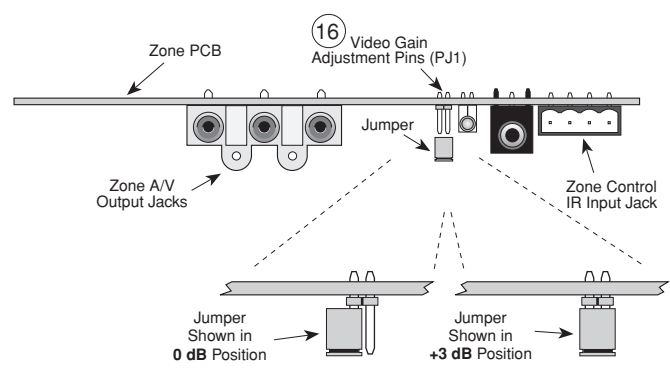

Fig. 4 Video Gain Adjustment - Jumper Locations
16. **Video Gain Adjustment Jumpers (internal).** The video gain of each zone on the ZPR68-10 can be set to two levels, by the use of an internal jumper. See **Fig. 4**. With the jumper on one pin only of PJ1, the video gain is unity (0 dB). When the jumper is inserted onto both pins of PJ1, the video gain is increased by +3 dB. You should use the +3 dB position only if you notice a reduction in picture contrast and brightness when running long cable lengths (usually in excess of 150 feet). Since the majority of applications will not require additional gain, all
*Use RG-6 coaxial cable with RCA type phono plugs on each end. You may need to adjust the Video Gain on the zone cards if you have coaxial cable runs greater than 150 feet. See **Fig. 4** for details.*